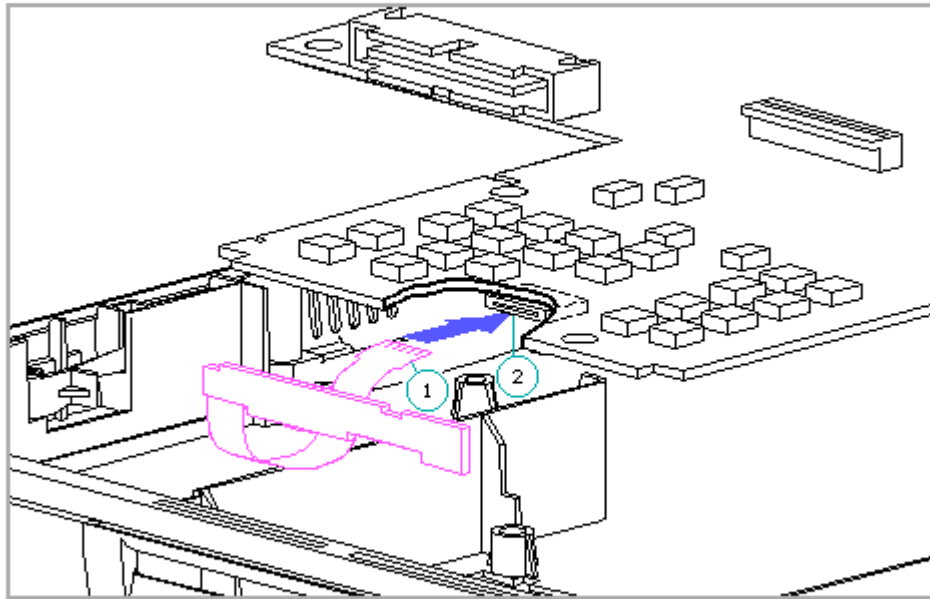

Figure 4-51. Reconnecting the LED Cable Assembly to the System Board
1. Connect the LED cable assembly [1] to its connector on the system board [2] (Figure 4-51).